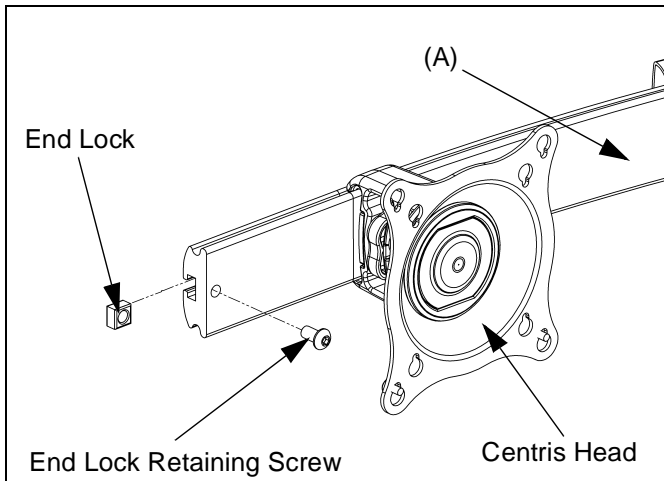

Figure 10
- Reinstall end locks into mounting rail using the 5/32" hex key (F) (See Figure 10).